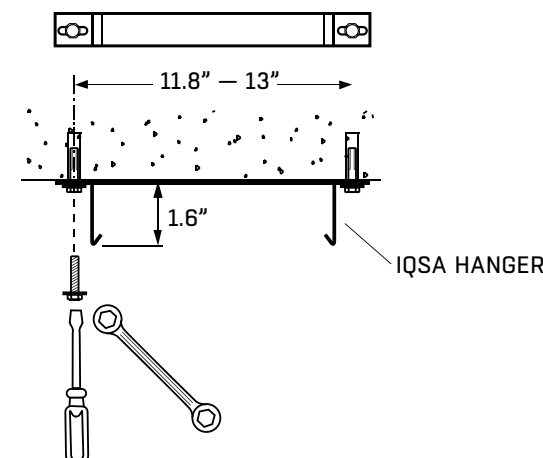

FIGURE 4. Aurora IQSA suspension tight to structure.
- 1) The beam is then to be positioned within the acoustical ceiling grid and leveled horizontally by adjusting the nuts connecting the threaded rods to the beam brackets. (See **FIGURE 4**)